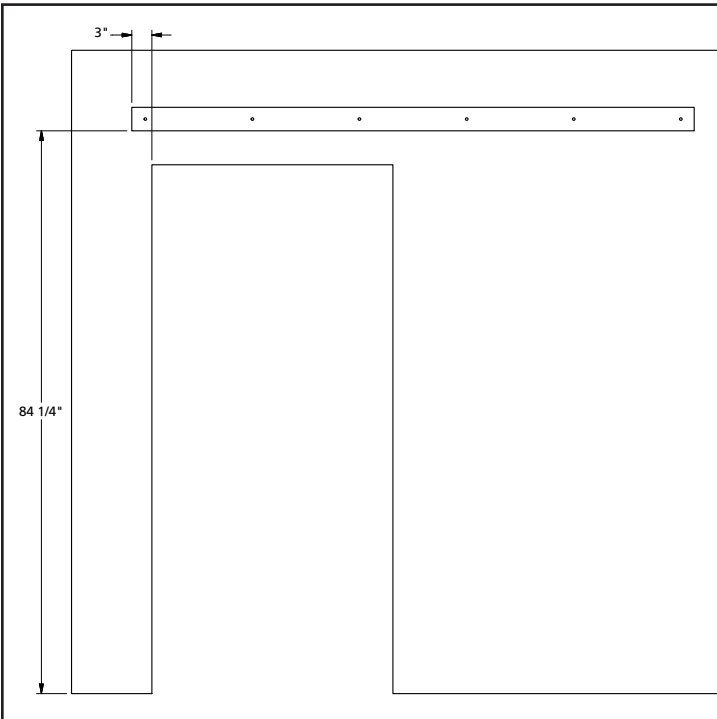

Figure 10. Backer Board Placement
2. Horizontally, the board should be placed so it has a minimum of 3 inches of overlap with the passage opening the barn door will operate within, as shown in figure 10